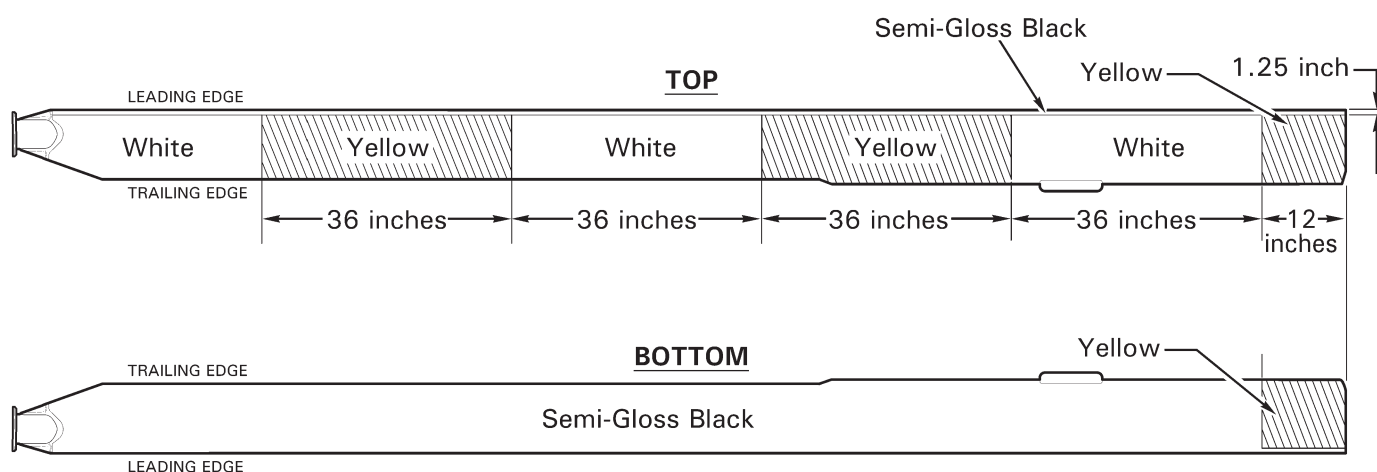

FIGURE 62-21 MAIN ROTOR BLADE PAINT SCHEME
4. Refer to Figure 62-21. Apply dark gray, flat black, white, and/or yellow Dupont Imron polyurethane enamel (or equivalent; see Approved Materials, § 20-70), as required, to primed area in accordance with paint manufacturer's recommendations.